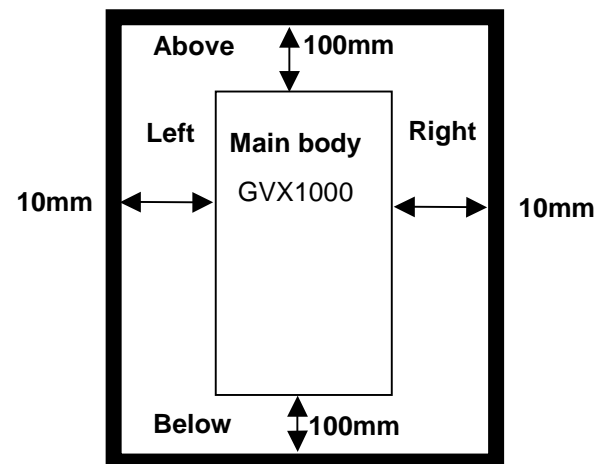

Fig. 2-2-1
- (1) Tightly mount the inverter in the upright position on a rigid structure so that the "GVX1000" characters face front. Avoid mounting the inverter upside down or avoid mounting horizontally.
- (2) Allow clearances for cooling wind shown in Fig. 2-2-1 to cool down the inverter which generates heat during operation. The generated heat is radiated upward. Do not install the inverter below a heat sensitive device.
- (3) The temperature of the heat sink rises to about 90 °C during operation of the inverter. Mount the inverter on a base made of a material withstanding the temperature rise.